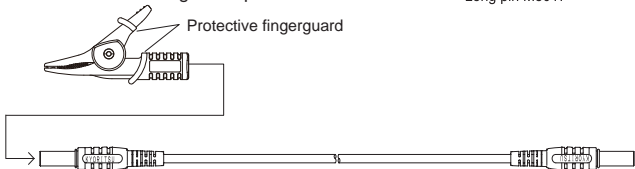
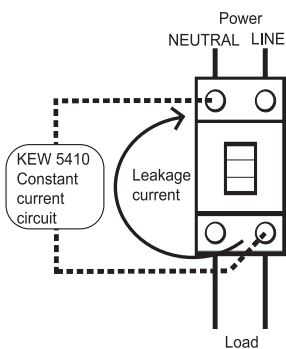
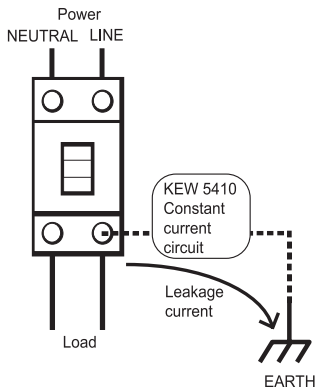

Fig. 4
Fig. 5
Fig. 6
- (1) Unscrew and remove ① shown in Fig.4 and remove the Tip pin.
- (2) Install the Long pin and tighten ①.
This instrument has a constant current circuit, and drives leakage currents (I) between LINE-NEUTRAL as illustrated in Fig.5 to activate RCDs, moreover, can output and measure leakage currents flowing to the earth as shown in Fig.6.